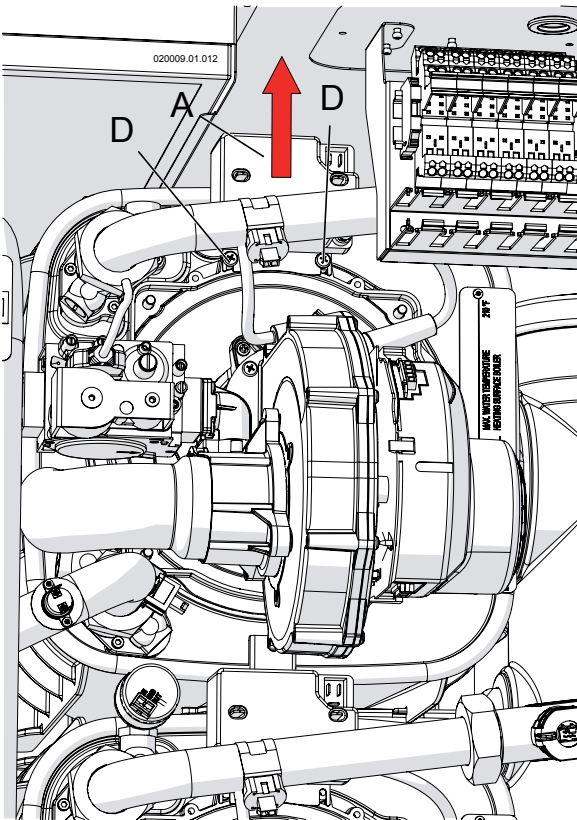

Figure 16-3 Remove the spark generator
- 3.- Loosen screws "D" (Figure 16-3) and move up the spark generator "A" (Figure 16-3);